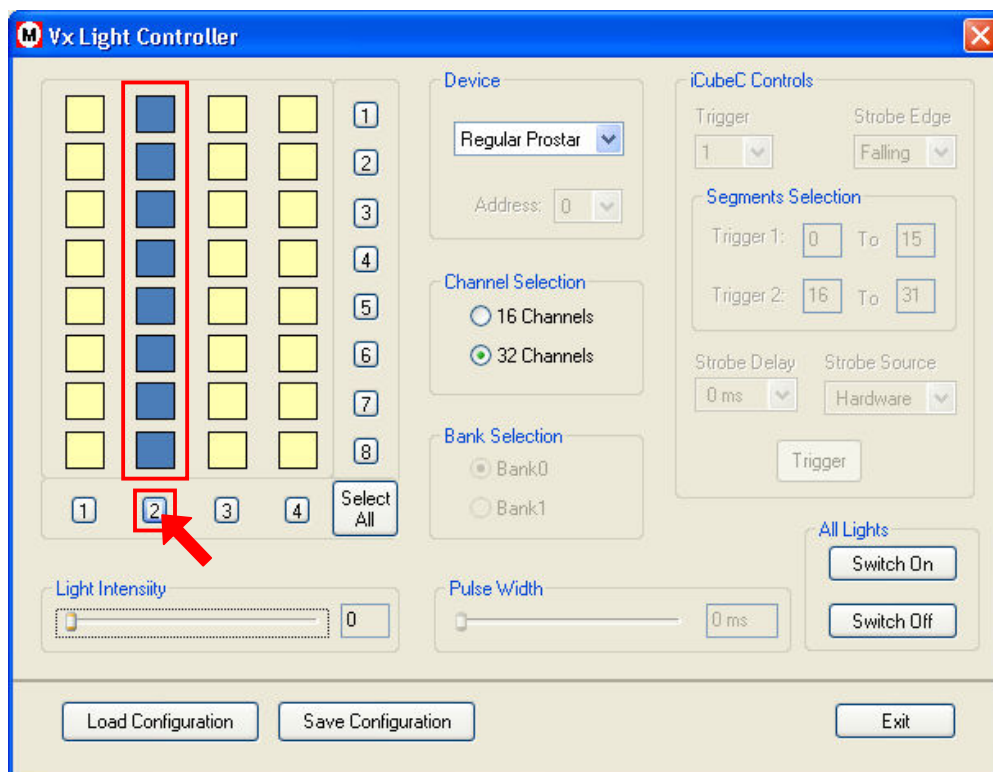

Fig 4.11: Selecting all controllers of channel 2
- If the requirement is that all the controllers are to be selected for a particular Channel, then click the corresponding button number of controller for that channel. Refer Fig.4.11.